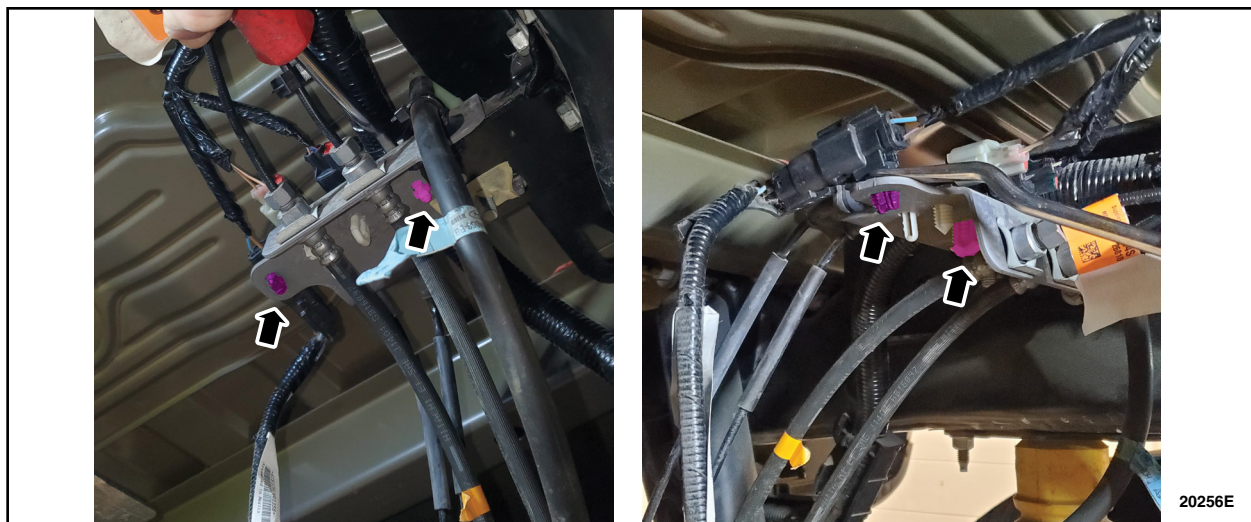

FIGURE 6
10. Remove the two christmas tree retainers that are connecting the harness to the brake line bundle. See Figure 6.